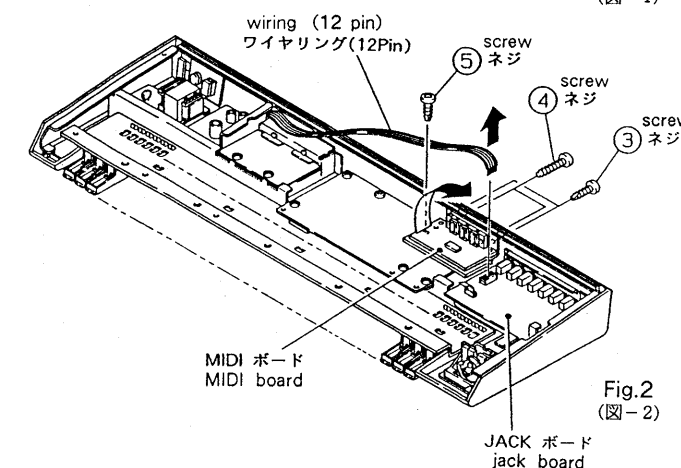

Fig.2 (図-2)
2) Loosen (3) 2 screws (short), (3) 2 screws (long) and (5) 1 screw on the rear panel and remove the MIDI board from the panel. Remove the wiring (12 pin) of the jack board and place the MIDI board on the jack board. (Fig.2)